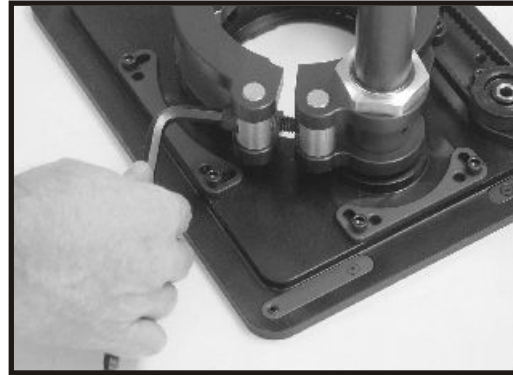

FIG. 1
2. With a 5/16" hex wrench, loosen the cap screw on the carriage clamp to allow the motor to slide into the carriage assembly (Fig. 1). The Mast-R-Lift will accept the Porter Cable 7518 out of the box. If you are using a smaller diameter router motor insert the adapter collar into the opening.